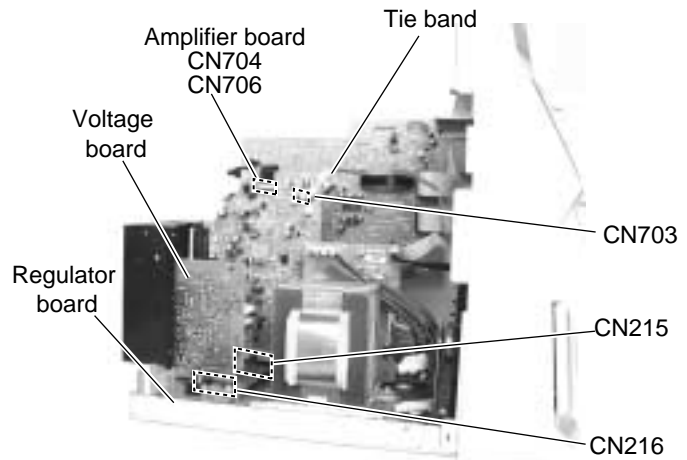

Fig.20
■ **Removing the amplifier board / voltage board / heat sink** (See Fig.20 and 21)